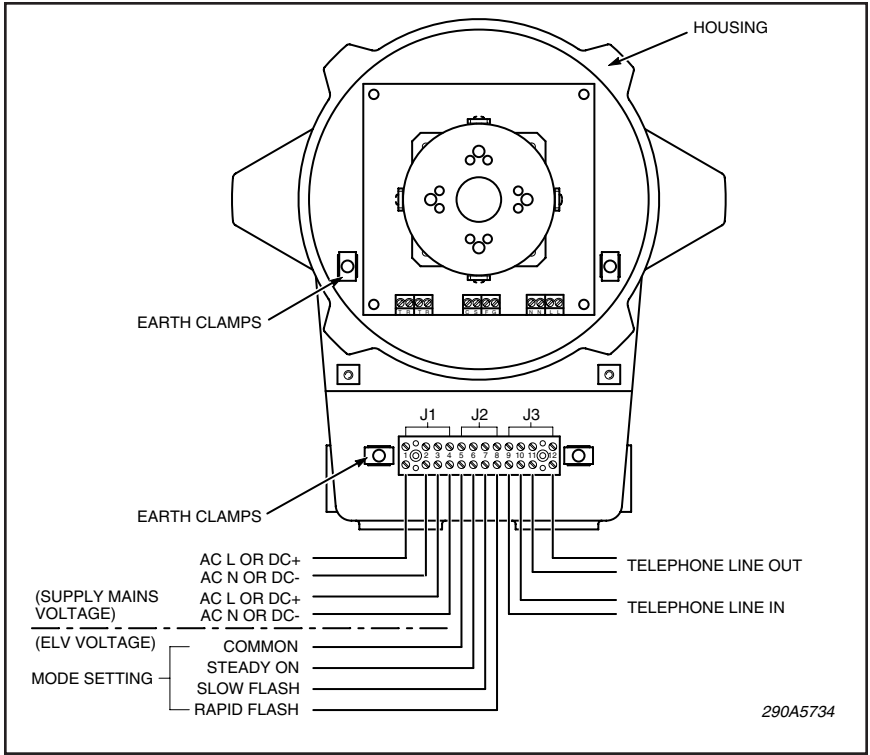

Figure 2.
e. A twelve-pole screw terminal block is provided for field wiring. See figure 2 for wiring diagram. These terminals are rated for the following wire ranges: 22 to 12 AWG (0.5 to 4 mm2). Terminal tightening torque is 0.5 to 0.7 Nm. The power feed through terminals of J1 are rated for 300V, 10 amps maximum. See section D for specific mode of operation wiring.